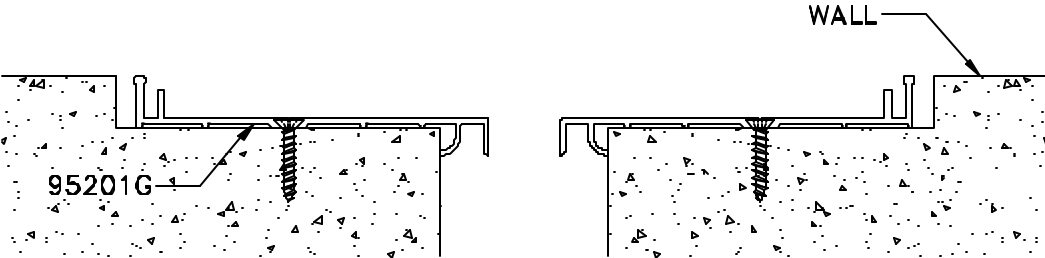
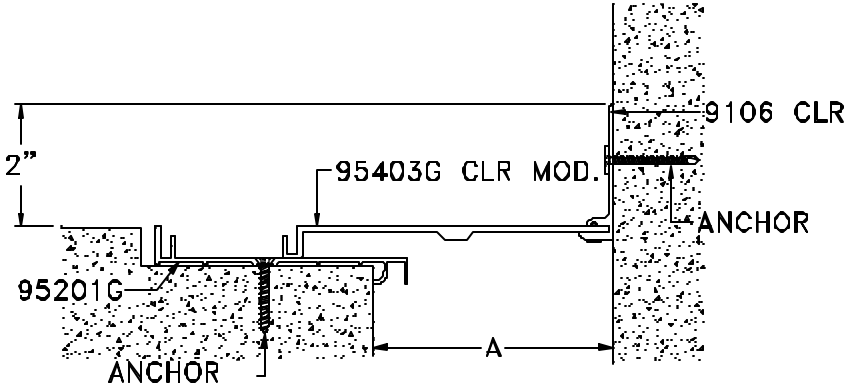

Figure 11
Figure 12
- STEP 22.** Attach the base member, or the corner wall cover plate, to the concrete slab using the fasteners supplied by the factory (see Figure 11 and Figure 12).